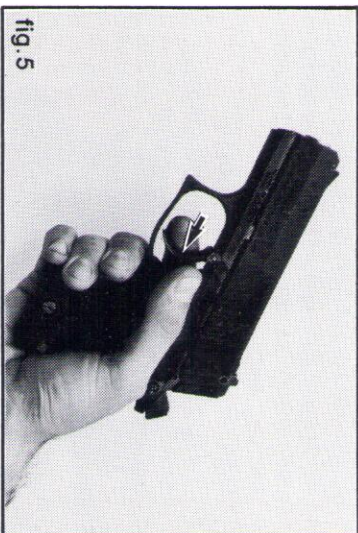

fig. 5
4. Point the pistol in a safe direction and pull the trigger (fig. 5). Pull the trigger again to check the double action mechanism.